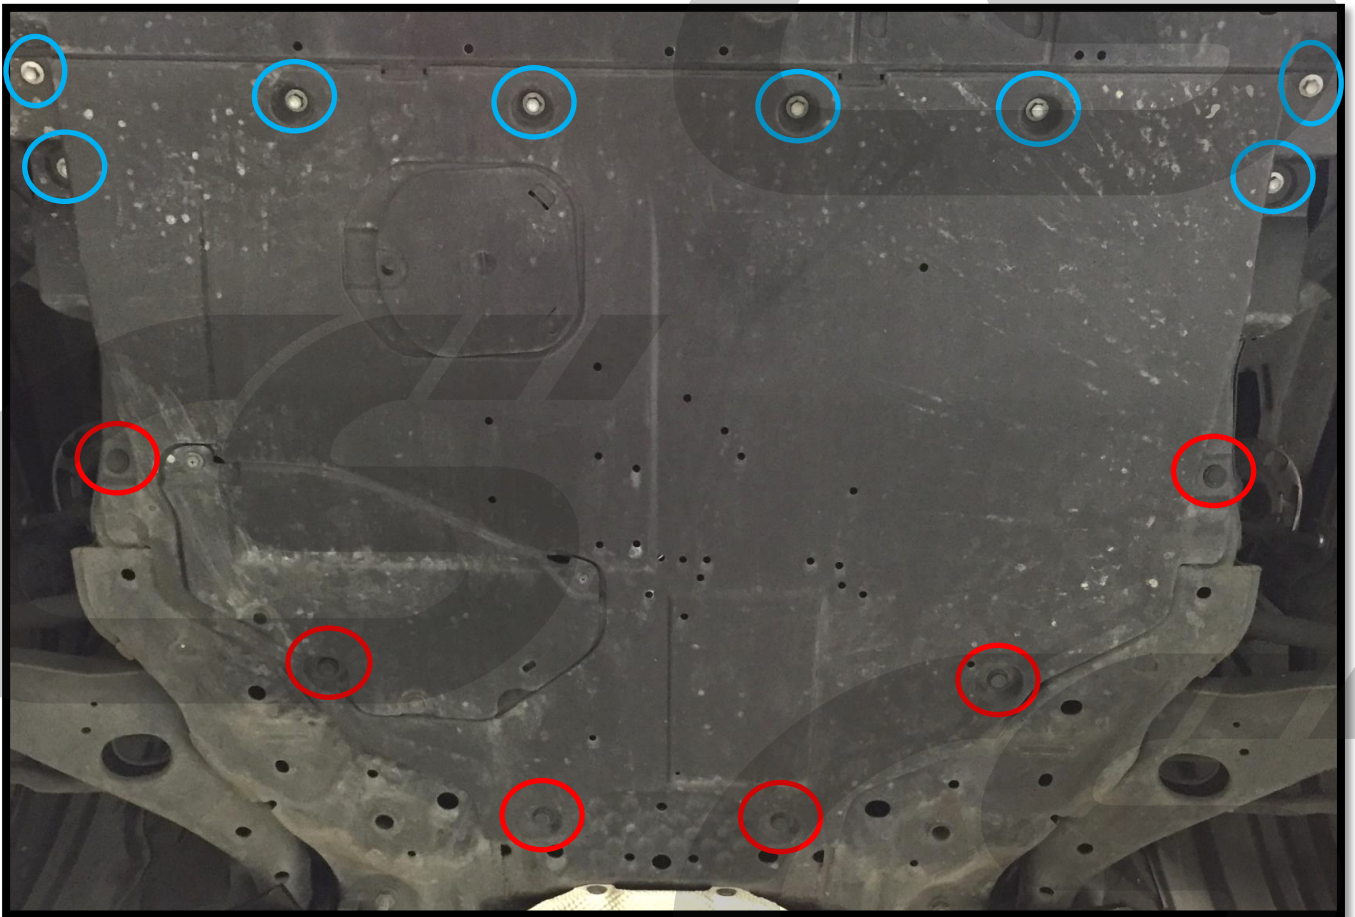

Figure 3c
- g) Remove the six push clips from the rear portion of the engine undertray. Shown **circled in red** in **Figure 3c**.
- h) Remove the eight 10mm bolts from the engine undertray. Then remove the engine undertray from the vehicle. Bolts shown **circled in blue** in **Figure 3c**.